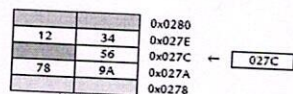

Figure 5.2: Operation of the stack in the MSP430F2013, whose RAM lies from
- For example, suppose that the stack were as shown in Figure 5.2(d) with SP=0x027C. Then the preceding instruction would load 0x1234 into R6.